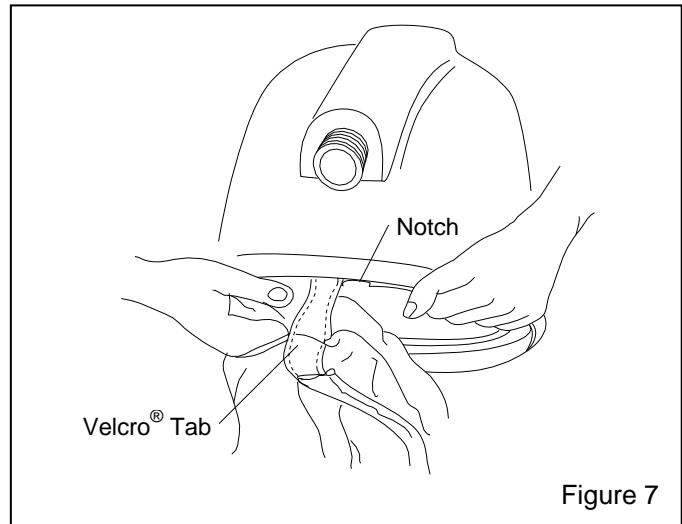

Figure 7
9.4.2 Separate the Velcro® tabs on the back of the cape. Refer to Figure 7.